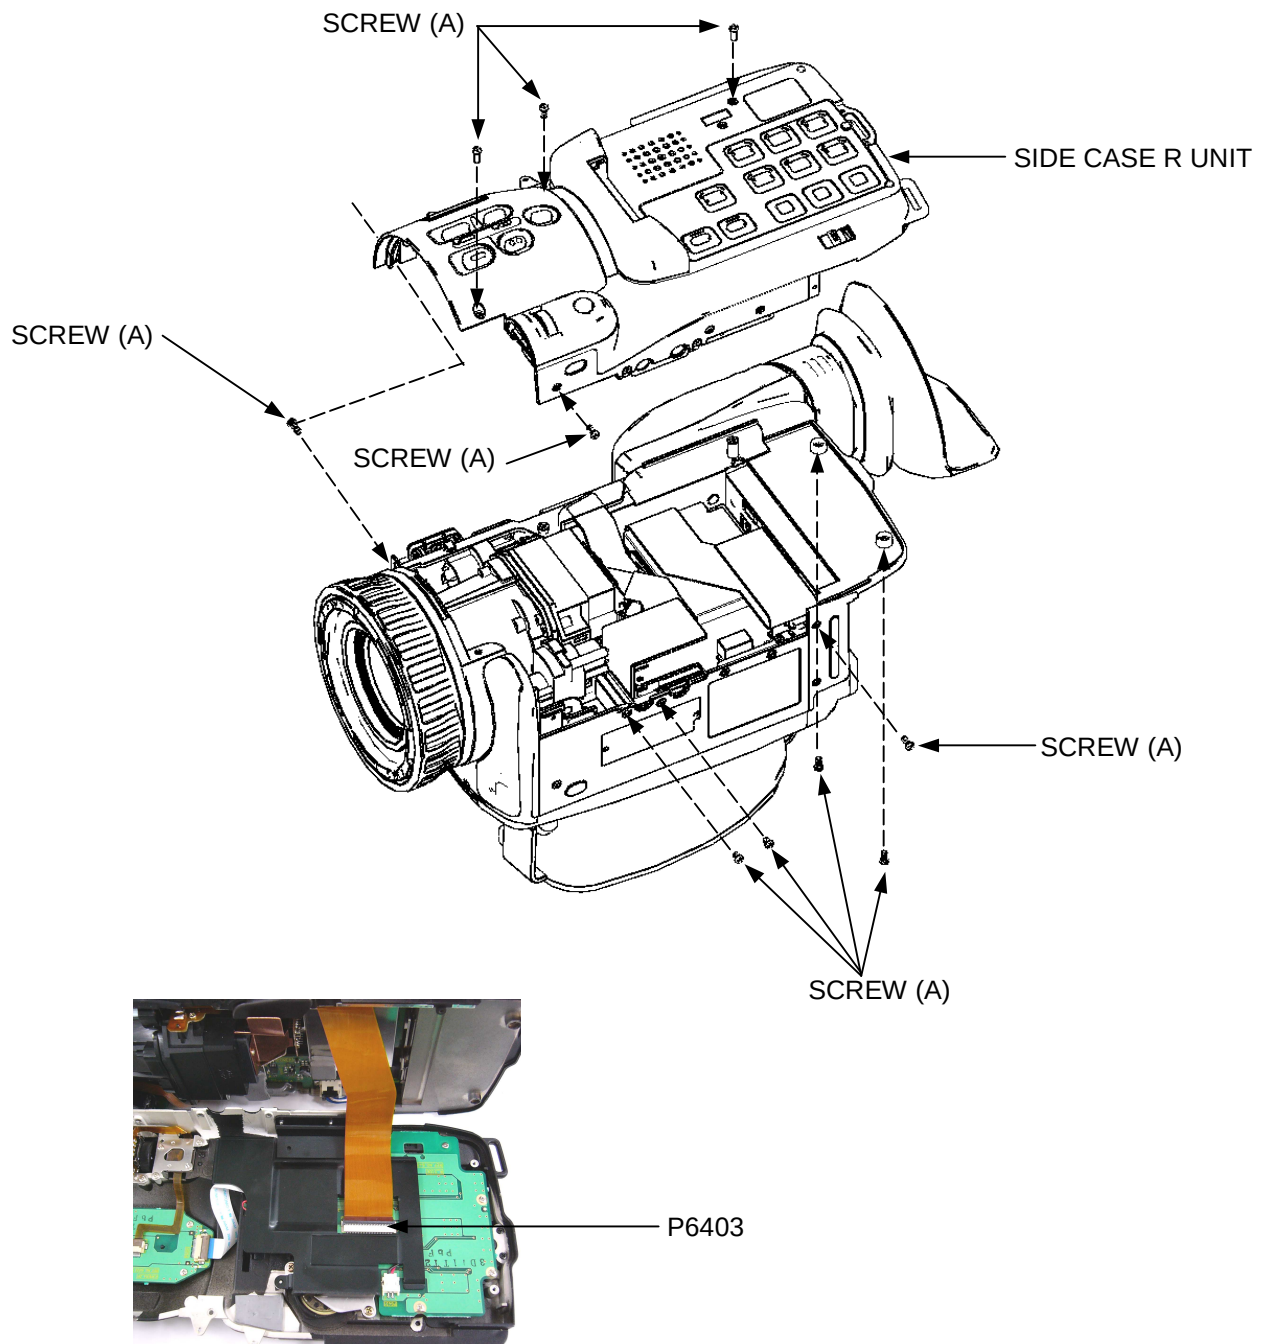

Figure 4-1
2. Unscrew the 10 screws (A) as shown in figure 4-1.
3. Disconnect the connector P6403 on R SIDE C.B.A. and remove the Side Case R Unit as shown in figure 4-1.